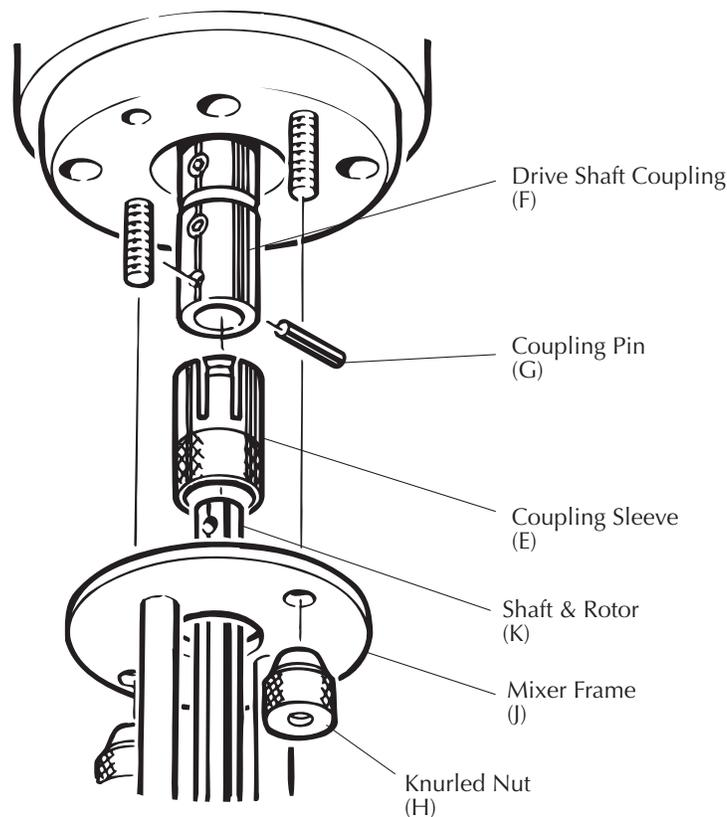

Fig.2 Fitting the Standard Mixing Assembly
3.3 ATTACHING THE MIXING ASSEMBLIES (Refer to FIG. 2)